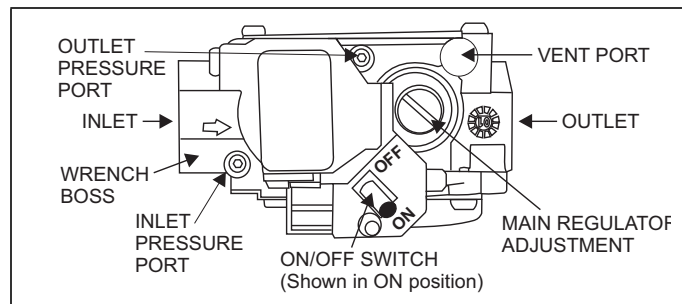

Figure 30: Gas Valve
Inlet and manifold gas pressure can be measured by connecting the U tube manometer to the gas valve with a piece of tubing. Follow the appropriate section in the instructions below. See Figure 30 for the locations of the pressure ports on the gas valve.
Connect the positive side of the manometer to the IN P tap on the gas valve. Do not connect any tubing to the negative side of the manometer, because it references atmospheric pressure. See Figures 30 and 31 for connection details.
Connect the positive side of the manometer to the OUT P tap on the gas valve. Do not connect any tubing to the negative side of the manometer, because it references atmospheric pressure. See Figures 30 and 31 for connection details.
1. See Figure 30 for location of pressure regulator adjustment cap and adjustment screws on main gas valve.